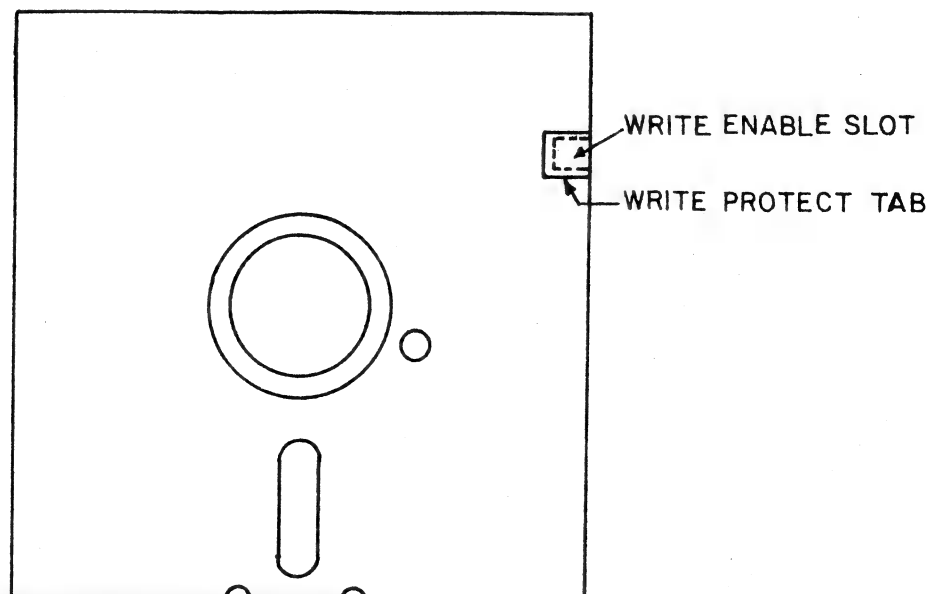

FIGURE 3-1. WRITE PROTECT TAB
- 1 - Place a "write protect" tab on the master CP/M operating system diskette. The "write protect" tab will not allow the computer to write on the master. (Ref. Fig. 3-1)